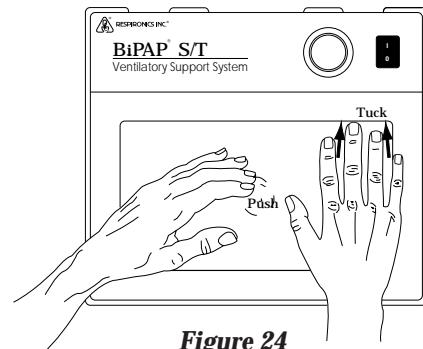

Figure 24
6. See Figure 24. Center a new filter over the filter holder. Carefully push in on the center button and tuck the filter in on all four sides.